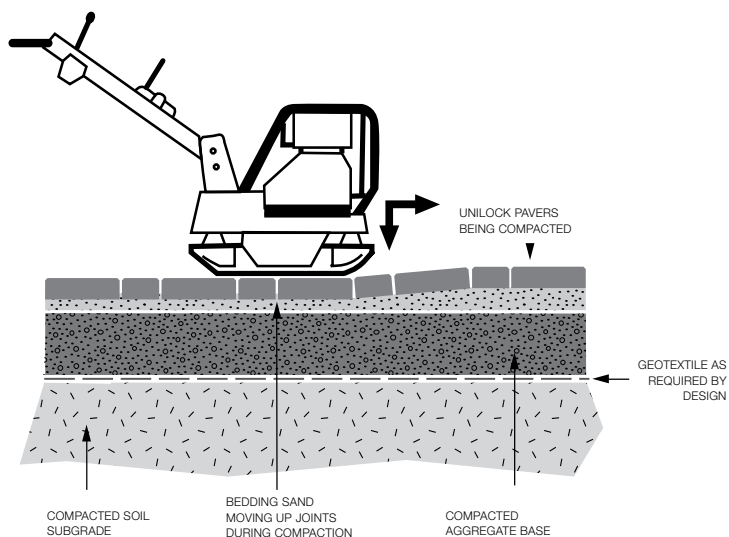

Figure 27. Pavers being compacted.
**IMPORTANT: DO NOT put any jointing sand in before surface compaction. Doing so will prevent proper leveling. The surface must be free of debris or sand before compacting (Figure 27). Any sand or debris left on the surface will be ground into the paver surface and potentially damage the appearance.**